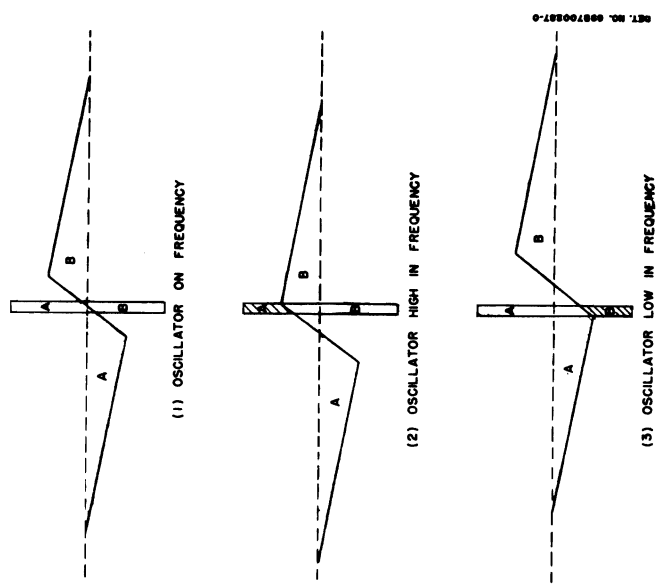

FIGURE 21. WAVEFORMS AT PHASE DETECTOR
control voltage is applied to the grid of V-16. If the oscillator tends to increase in frequency, with respect to the sync pulses, the phase relationship shown in Figure 21(2) exists at the diodes. The phase of the sawtooth has now shifted so that at the same instant that the pulse is applied to the plate of diode "A" the positive saw is also applied to its cathode, so that only the shaded portion of the pulse causes conduction of diode "A". Diode "B", however, still conducts on the total amplitude of the negative pulse applied to its cathode aided by the positive saw applied to its plate at the same time. Since current flow thru diode "A" makes the grid end of R-82 negative, with respect to B-, the decreased current flow, caused by the sawtooth voltage bucking the pulse voltage at diode "A", results in a more positive voltage across R-82, applying a more positive voltage to the grid of V-16 which, as we have seen, results in decreasing the oscillator's frequency.
If the oscillator tends to decrease in frequency, with respect to the sync pulses, the phase relationship shown in Figure 21(3) exists at the diodes. At the same instant that the negative pulse is applied to the cathode of diode "B", the negative saw is applied to its plate so that only the shaded portion of the pulse causes conduction. Diode "A", however, conducts on the full amplitude of the positive pulse applied to its plate, aided by the negative saw applied to its cathode at the same time. Since current flow thru diode "B" makes the grid end of R-82 positive, with respect to B-, the decreased current thru diode "B" results in applying a more negative voltage to the grid of V-16 which, as we have seen, results in increasing the oscillator frequency. C-84, R-85 and C-86 provide two time constant filters which are necessary to obtain "fly-wheel" action of this AFC sync circuit.
If the sawtooth, whose phase and frequency are a function of the multivibrator's phase and frequency, is operating in the middle of the lock-in range, the sync pulse will occur in the center of the retrace time. See Figure 21(1). The sync pulses have an amplitude of from 6 to 8 volts while the sawtooth amplitude is about two volts. The RC time constant in the pulse input circuit to the diodes is long enough to maintain an average pulse voltage of 6 to 8 volts for two or three horizontal lines, which means that in the "on" frequency condition shown in Figure 21(1), the diodes conduct only on the pulses and since these are equal in amplitude and develop voltages of opposite polarity across R-82 in the first multivibrator grid circuit, as shown in Figure 18, no